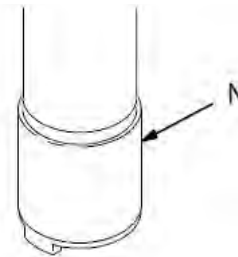

FIG. 4
and disconnect the air hose. Push up on the ball of the intake valve (N) to drain the lower part of the pump. See FIG. 4. Turn the pump over to drain the upper part of the pump.